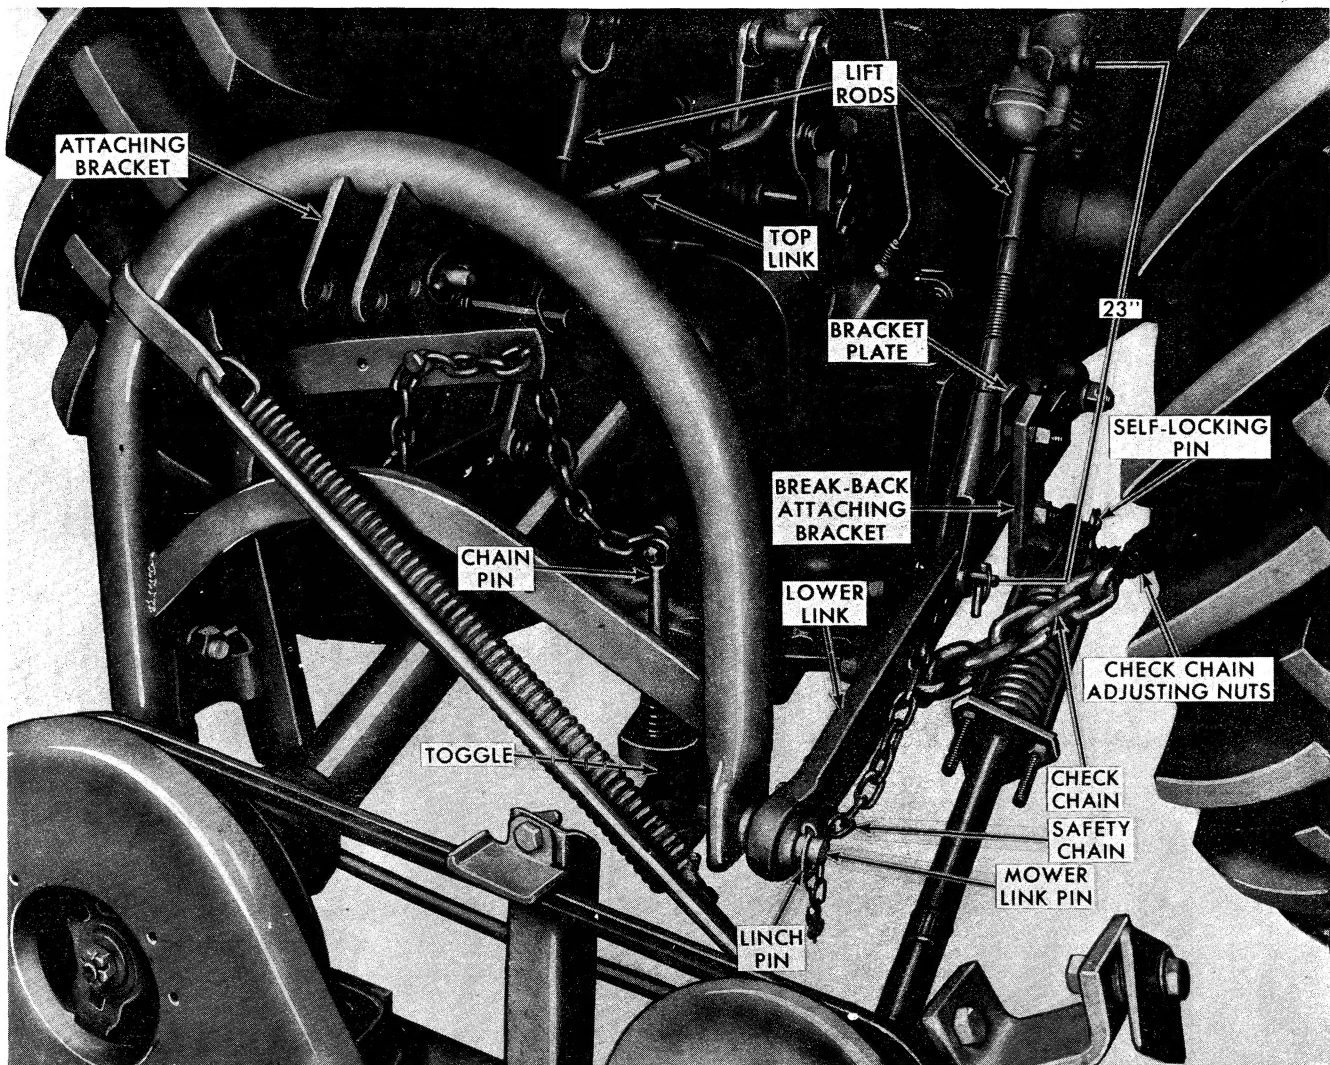

Figure 2
- a. Install the check chains between the anchor bracket and the lower links as shown in Figure 2.
- b. Position the lift rods, Figure 2, in the front set of holes in the lower links. Then, adjust the lift rods to a length of 23 inches (measured from center-to-center of the attaching pins) as shown.
- c. The safety chains, Figure 2, should be wired to the lower links. This will prevent the chains from interfering with the bellcrank and from catching and dragging hay.
2. Install the two link pins, lock washers, and nuts in the upper frame as shown in Figures 2 and 3.
3. Back the tractor into position and attach the tractor lower links to the mower link pins. Secure with the tractor link pins as shown in Figures 2 and 3.
4. Attach the tractor top link, Figures 2 and 3, to the mower attaching bracket with the link pin provided with the kit. Secure with a linch pin.
5. Position the break-back attaching bracket on the tractor right lower link so that the front of the bracket just touches the ball socket at the forward end of the lower link. Secure with the two carriage bolts and nuts provided in the bracket. See Figures 2 and 3.
6. Attach the break-back assembly to the link pin on the attaching bracket, as shown in Figures 2 and 3. Secure with the self-locking pin.
9. Insert the chain pin, Figures 2 and 3, in the tractor drawbar and secure with the toggle in the
10. On Major Tractors shorten the check chains with the adjusting nuts, Figure 2, until no lateral movement exists in the lower links.
4. Remove the chain pin, Figures 2 and 3; from the drawbar by aligning the toggle with the pin.